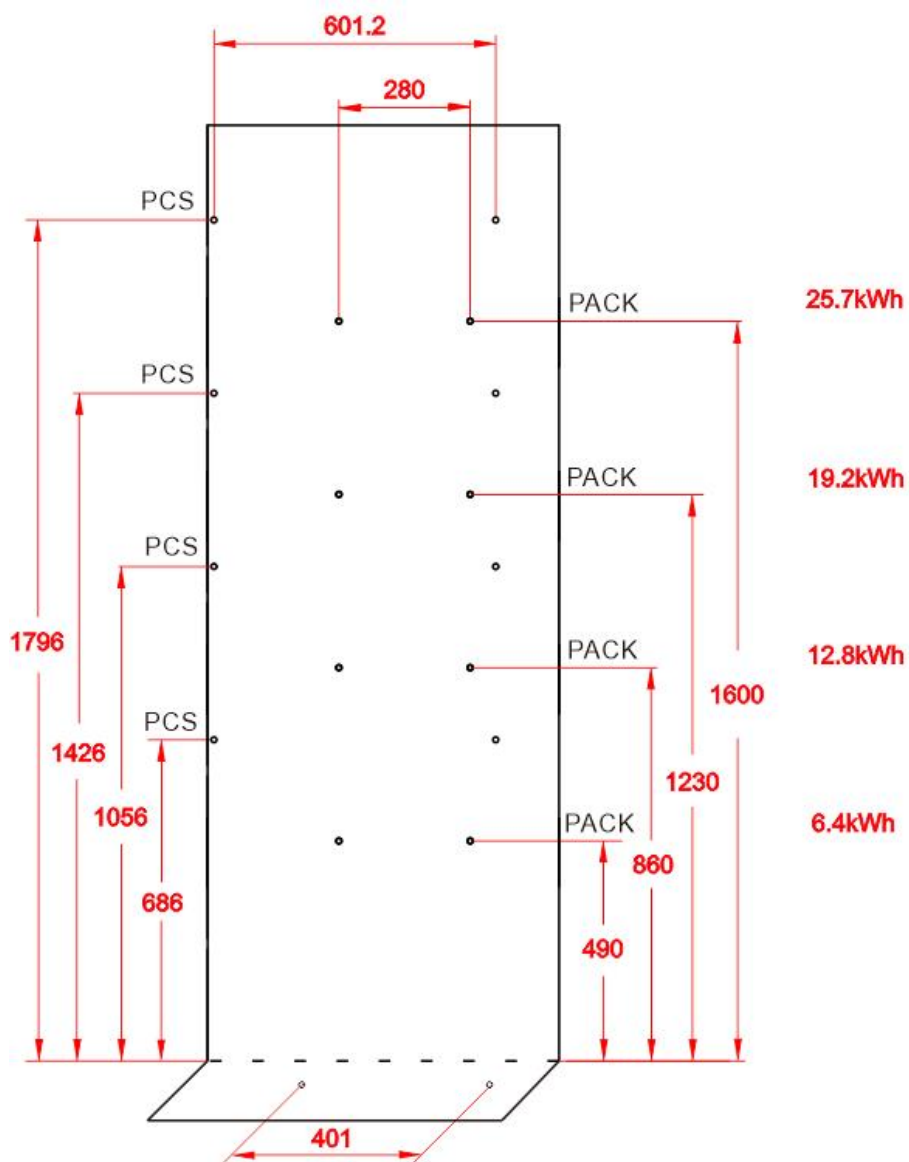

Figure 5-4 Drilling dimensions (Unit: mm)
Step 1 Determine the punching position according to the product installation dimensions drawing shown in Figure 5-4.